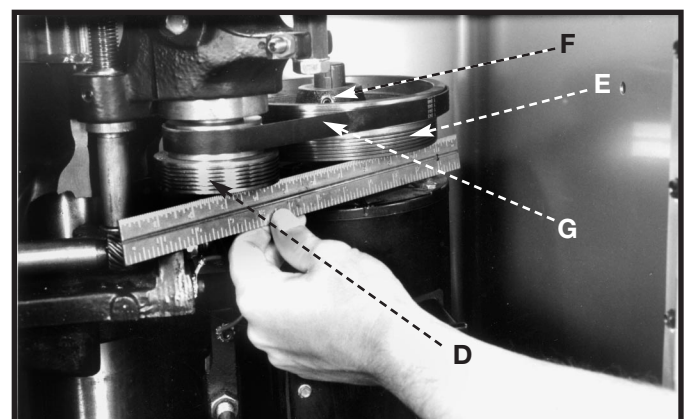

Fig. 38
2. Always align the spindle pulley (D) Fig. 38, and motor pulley (E) to provide maximum belt performance and to reduce belt wear. To check the pulley alignment, place a straight edge against the underside of both pulleys (Fig. 38). If an adjustment is necessary, loosen the set screw (F) and move the motor pulley up or down until the two pulleys (D) and (E) are aligned. Tighten the set screw.
3. Using light finger pressure on the belt between pulleys (D) and (E) Fig. 38, a deflection of approximately 3/32" will constitute proper belt tension.